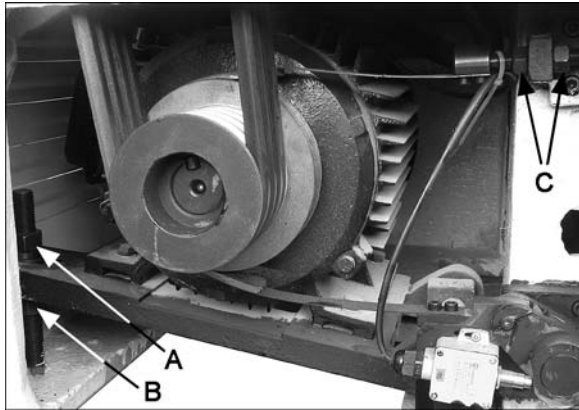

Figure 42 – Belt and brake strap adjustment
- Loosen upper hex nut (A, Figure 42). Place scrap piece of wood under motor to act as lever. Lift motor up and block temporarily.
- Tension belts by loosening lower nut (B, Figure 42) and tightening down upper nut (A, Figure 42) until light finger pressure causes approximately 3/4" deflection on each belt.
After the clutch is disengaged, the main drive can be stopped by the brake. If the spindle does not stop rapidly, the brake strap may need adjustment. Use the two adjusting nuts (Figure 42) to tighten the strap. Do not overtighten the strap, which can cause it to distort.